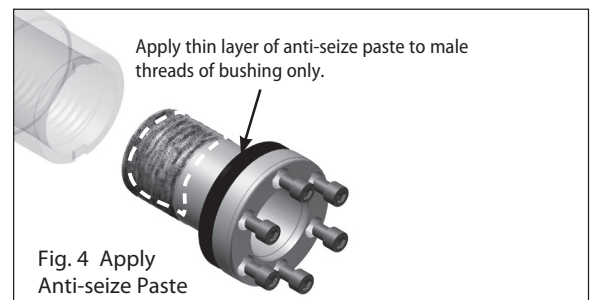

Fig. 4 Apply Anti-seize Paste
Step 4 – Apply a thin layer of anti-seize paste **to the male threads of the Taper-Grip® Bushing only** (see Fig.4). Based on tests, Sumitomo recommends Bostik Never-Seez Regular Grade or equivalent. Ensure that anti-seize paste does not enter the Taper-Grip® Bushing bore.